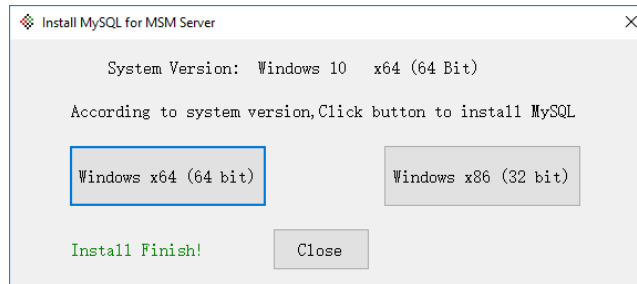

Figure A19
13. Click "Close". (Figure A19)